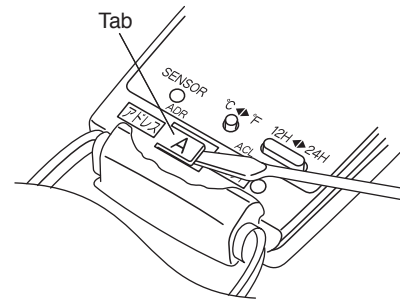
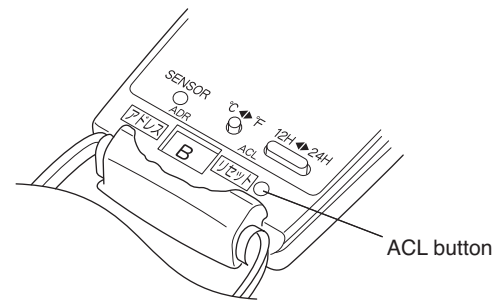
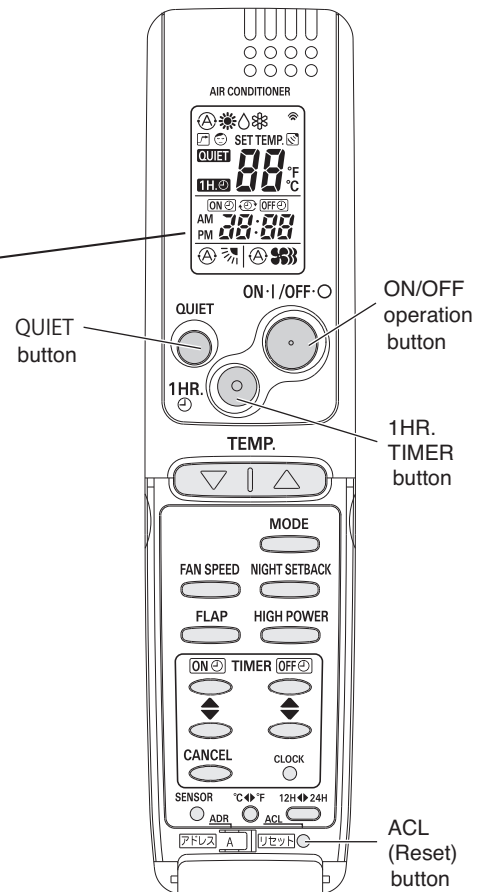

Fig. 62
Fig. 63
Fig. 64
- (1) Switch on the power source.
- (2) Break the address-setting tab marked "A" on the second remote controller to change the address (Fig. 62). When the tab is removed, the address is automatically set to B (Fig. 63).
- (3) Press and hold the remote controller QUIET button and 1HR. TIMER button. Then, press and hold the ACL (Reset) button with a pointed object such as the tip of a pen. After 5 seconds, release the ACL button first, then release the QUIET and 1HR. TIMER buttons. "oP-1" (Test Run) appears, blinking in the remote controller clock display area.
- (4) Each time the 1HR. TIMER button is pressed, the display changes as shown below. Press this button 2 times to change the display to "oP-7" (Address setting). (Fig. 64)
- (5) "oP-7" has now been selected for address setting.
- (6) Press the ON/OFF operation button on the remote controller. (Fig. 64) Check that the "beep" signal-received sound is heard from the second indoor unit (approximately 5 times). The sound you hear is the signal that the remote controller address has been changed.
- (7) Finally press the remote controller ACL (Reset) button to cancel the blinking "oP-7" display. (Fig. 64)